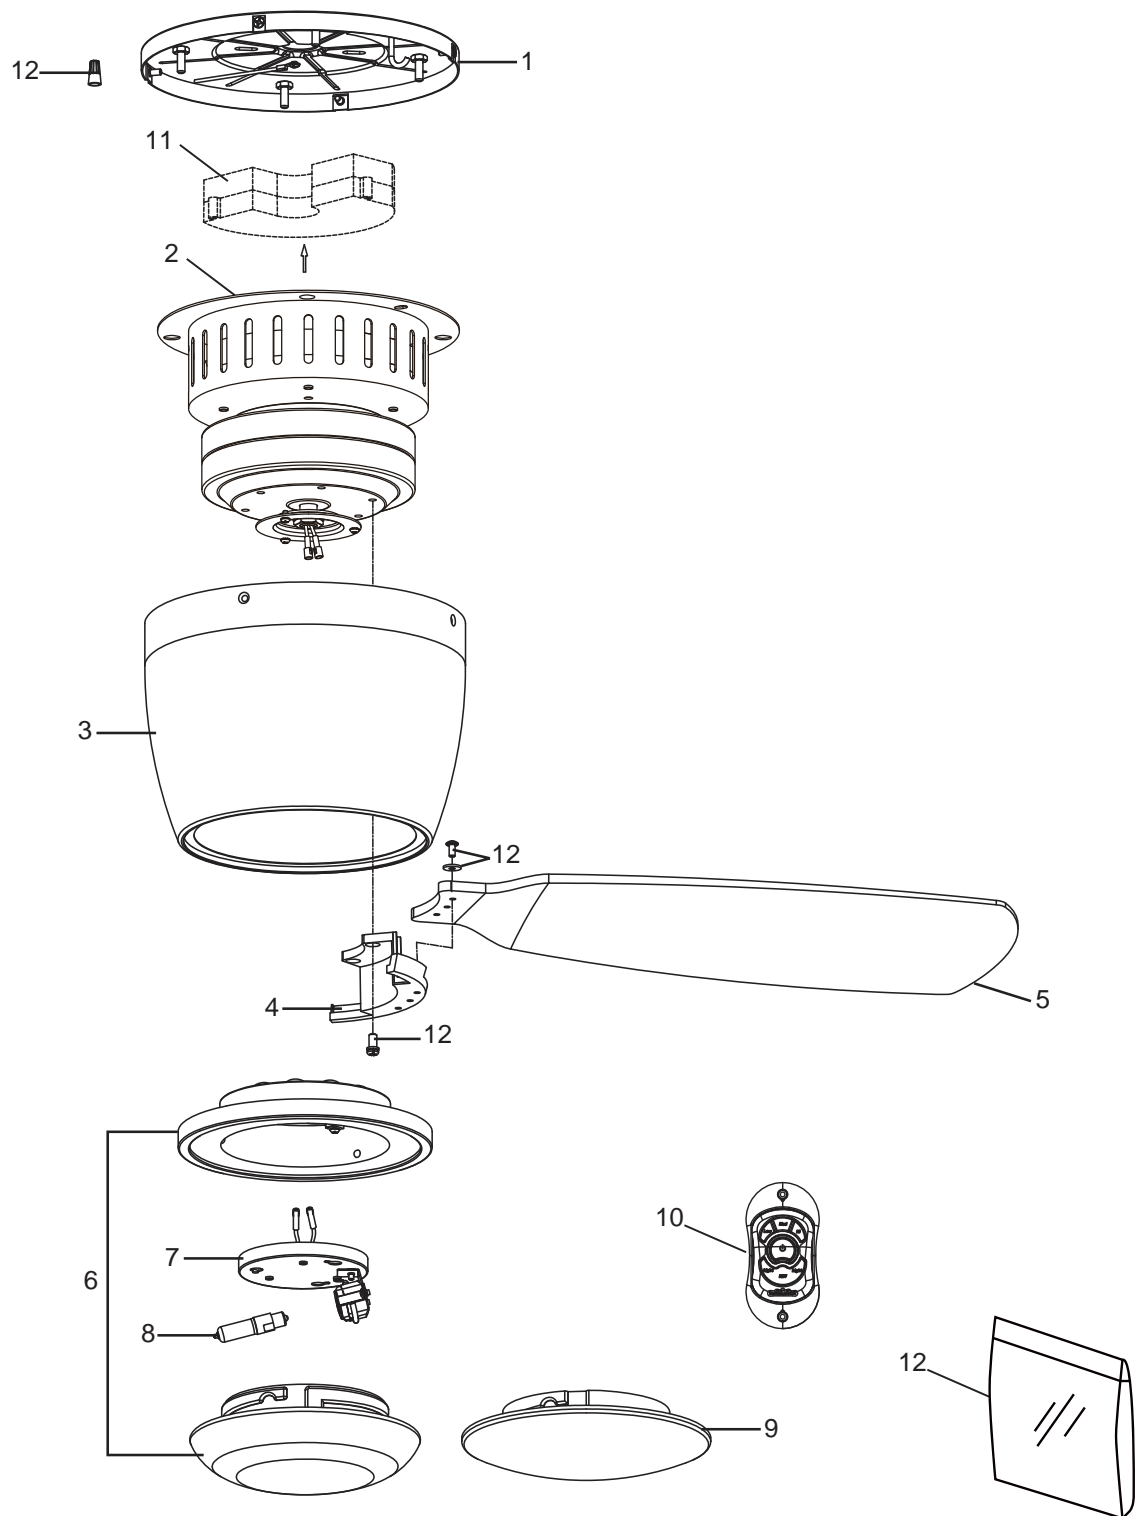

Figure 1
- ☐ 1. Remove one of the three screws in the support bracket at the bottom of the motor assembly. Slightly loosen the remaining two screws. Assemble the light plate assembly to the support bracket using the two key slots in the light plate. Replace the third screw and securely tighten all three screws. (Figure 1)
1. Operating and using hand-held remote (Figure 1):
1. Unthread two screws from the wall switch plate. (Figure 1)
1. Drill the two 1/4" holes in wall and use the M6 plastic anchor pushed into the holes. Install the control bracket with two #3- 1" self tap screws. Push the four plastic plugs in to cover the screw holes. (Included in the control packaging). (Figure 1)